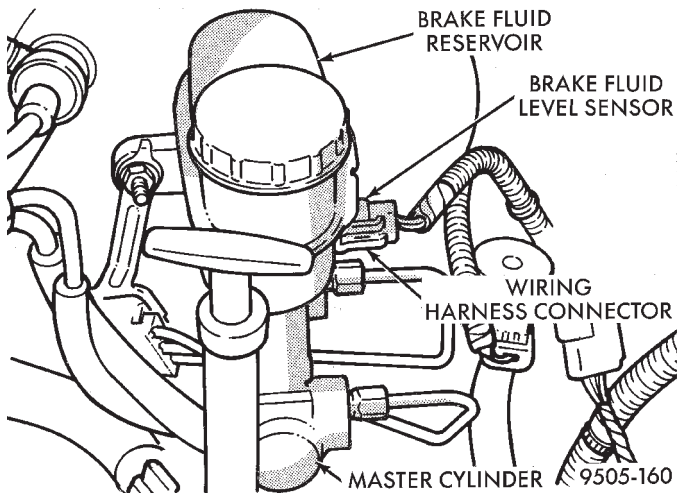

Fig. 43 Master Cylinder Fluid Level Sensor
- (1) Remove vehicle wiring harness connector from brake fluid level sensor, in master cylinder brake fluid reservoir (Fig. 43).